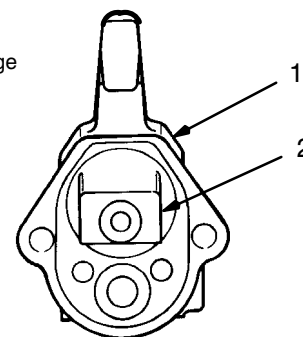

Fig 18
4. Insert the new power cartridge in the gun body (1).
NOTE: See Fig 18 for proper alignment of the power cartridge (2) in the gun body (1).
5. Install the gasket (6) in the gun body (1).